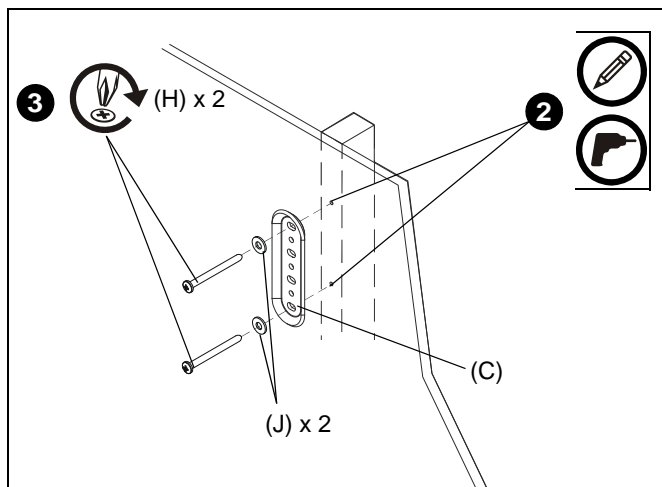

Figure 1
2. Using wall plate (C) as a template, mark then drill two 1/8" diameter pilot holes through top and bottom holes of wall bracket into wall structure. (See Figure 1)
3. Install two #10 x 2 1/2" Phillips Pan Head Tapping screws (H) through #10 washers (J), wall plate (C) and drywall into wood stud. (See Figure 1)
4. Ensure wall plate (C) is vertical, then tighten screws (H).